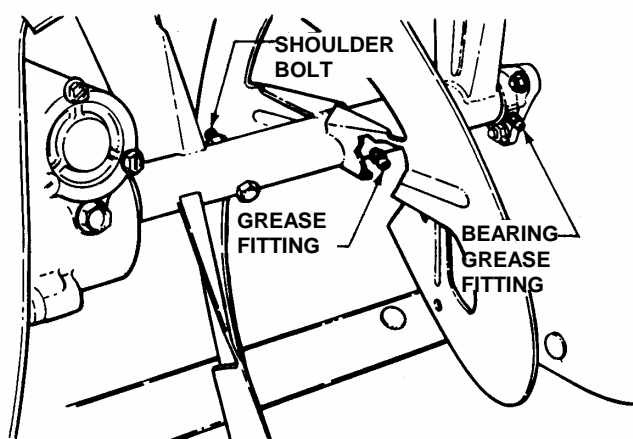

FIGURE 4.10
2. Install new shear bolts and nuts. Tighten to 5 to 10 ft. lb. of torque. See Figure 4.10.